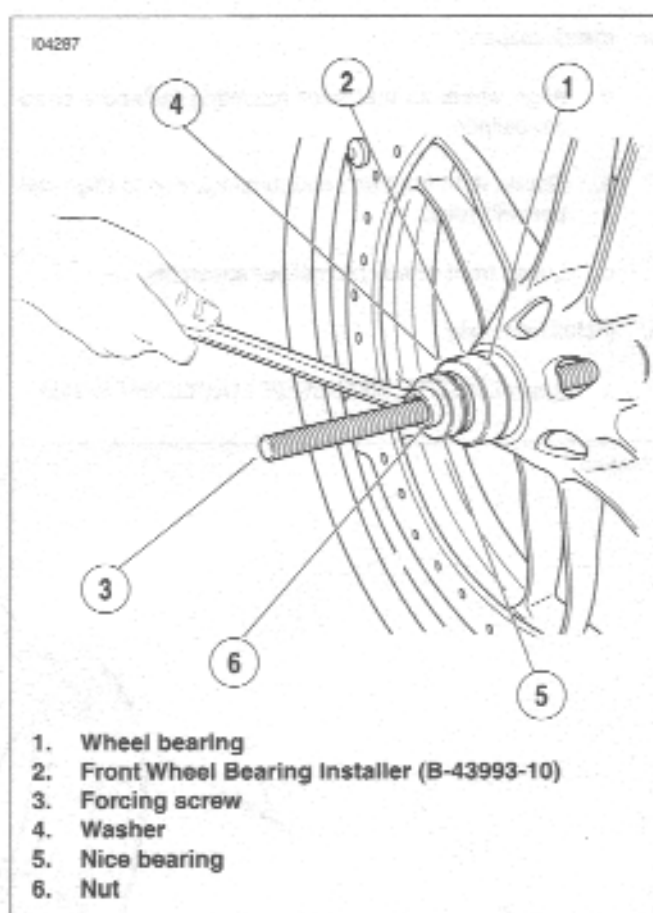

Figure 2-17. Install the Bearing
11. See Figure 2-17. Insert a **new** wheel bearing (1) squarely into the hub, with the lettered side pointing out (away from the wheel).
12. Slide the Front Wheel Bearing Installer Tool (B-43993-10) (2) onto the forcing screw (3), with the smaller diameter toward the bearing bore.
13. Install a washer (4), Nice bearing (5) and nut (6) onto the forcing screw (3).